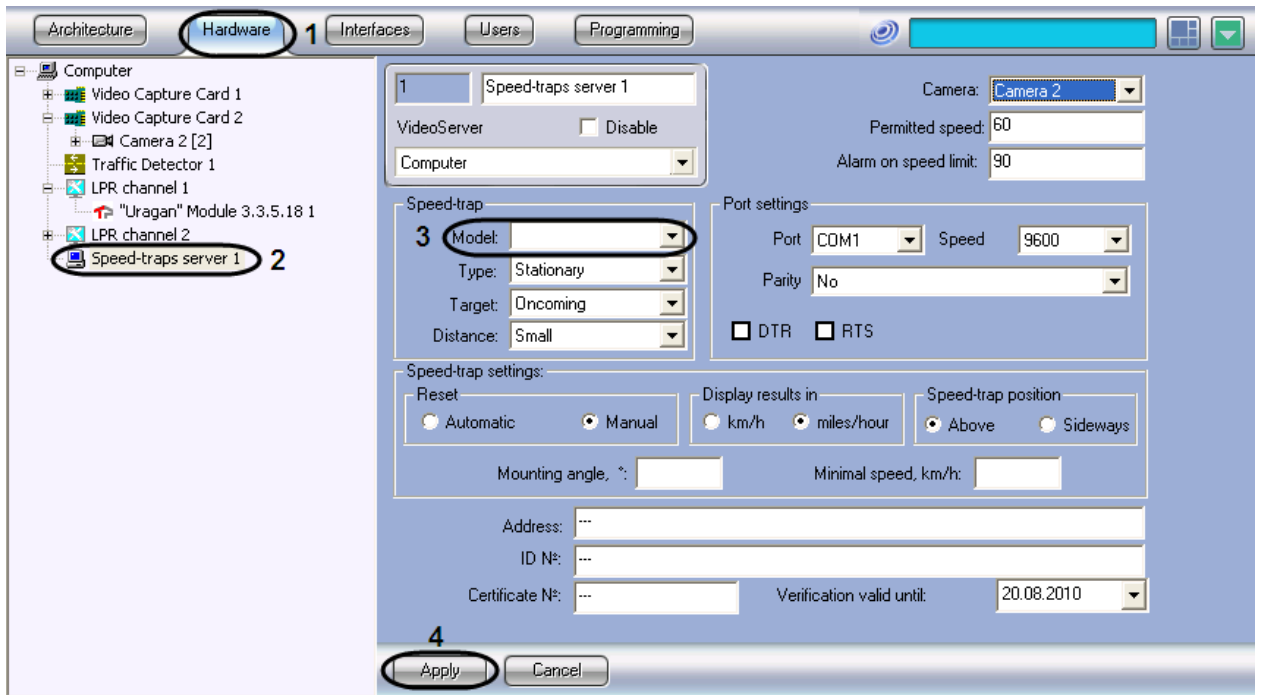

Fig. 7.3-4 Selecting the speed-trap type
2. In the object tree on the left side of the Hardware tab, select the Speed-trap server object representing the Radar module to be set up. The settings panel of the selected object will open on the right side of the window (see Fig. 7.3-4).